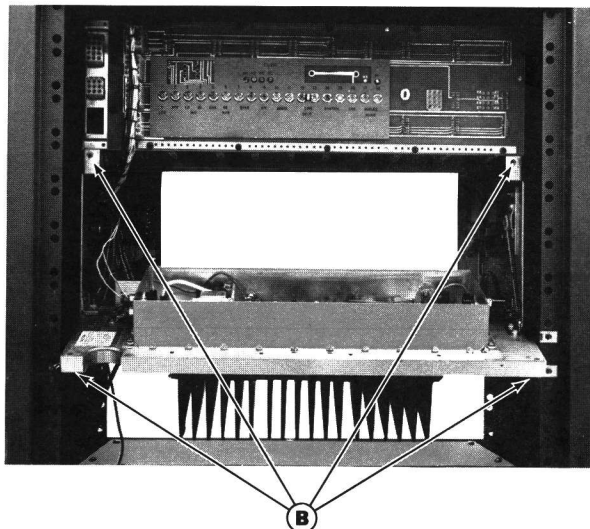

Figure 6 - Access to Power Amplifier Rear View
1. Remove the top two screws (B) on the Intermittent or Continuous Duty Power Amplifier. Refer to Figure 6.